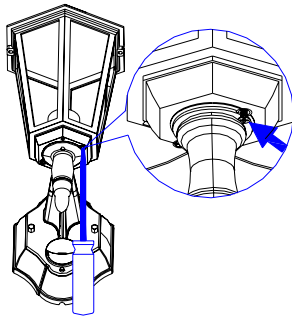

FIGURE 4
- (2) Secure the lantern compartment with the two screws provided. (FIGURE 4)